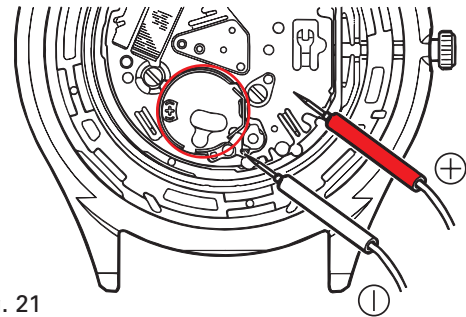

Fig. 21
- 3) Connect the (-) probe to the (-) input terminal for the SOLAR CELL UNIT and (+) probe to the **10** CIRCUIT BLOCK COVER (as illustrated in Fig.21).